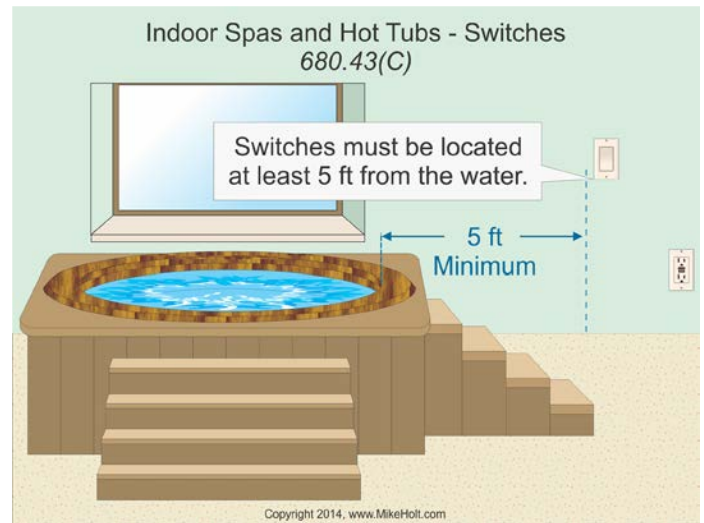

Figure 680–57
(2) Surface-mounted luminaires with a glass or plastic globe, a non-metallic body, or a metallic body isolated from contact, and suitable for use in damp locations.
(C) Switches. Switches must be located not less than 5 ft, measured horizontally, from the inside walls of the indoor spa or hot tub. Figure 680–57